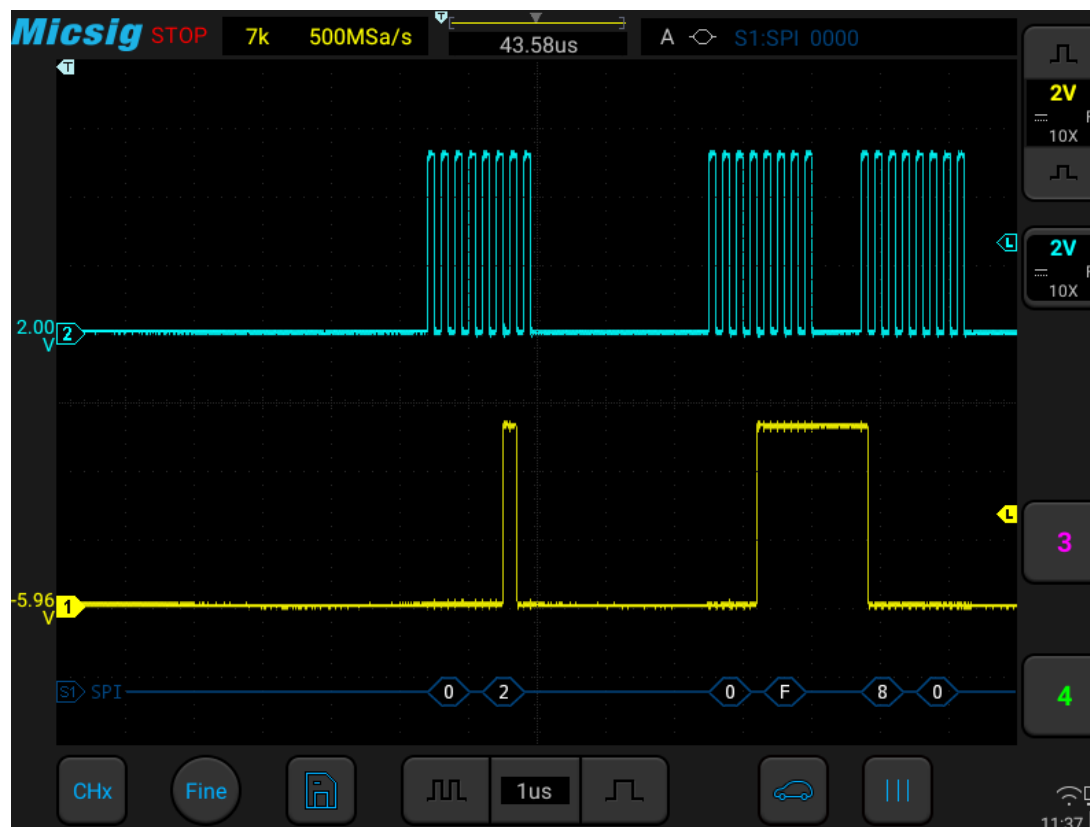

Figure 13-20 SPI Graphic Interface
- (1) Tap S1 to open the decode channel, and click S1 again to open the bus configuration menu;
- (2) Select the bus type as “SPI”, click clock as “Ch1” rising edge, the data is “Ch2” high level, and the data word length is “4bit”;
- (3) Open the trigger setting menu, click data on the touch screen, and use the virtual soft keyboard to set the data to be matched as “0001”;
- (4) Adjust the threshold levels of two channels according to signal amplitude; the SPI trigger graphic interface is shown in Figure 13-20: